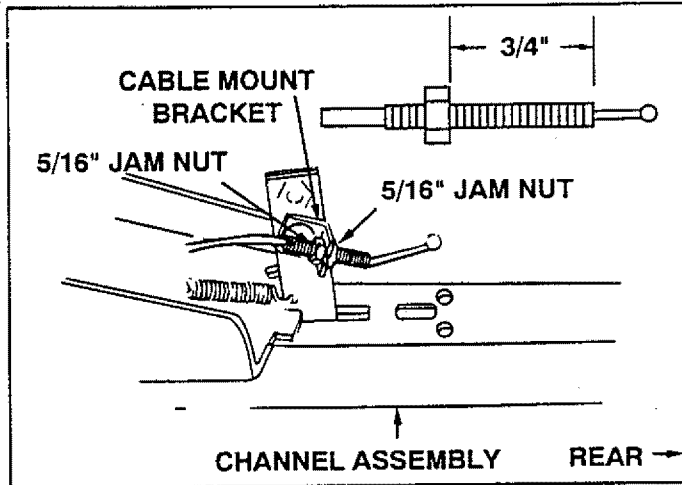

FIGURE 22 (Left Hand Side View)
- Assemble one 5/16" jam nut approximately 3/4" onto threaded end of control cable. Assemble threaded cable end through round hole in cable mount bracket as shown in figure 22, and secure with another 5/16" jam nut. **Tighten.** See figure 22.